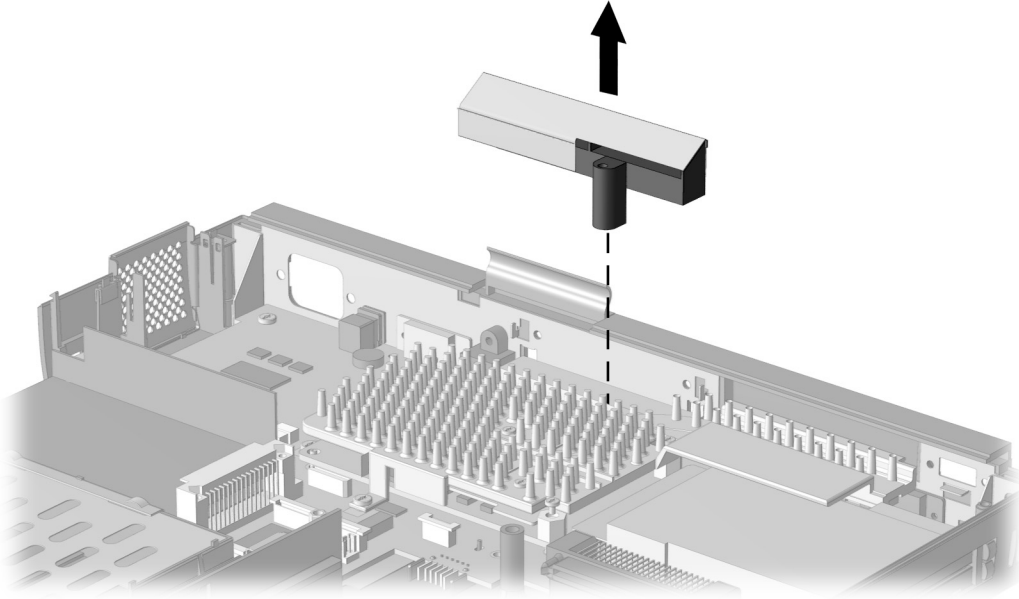

Figure 5-52. *Removing the Display Ground Clip*
19. Remove the display ground clip assembly (Figure 5-52).